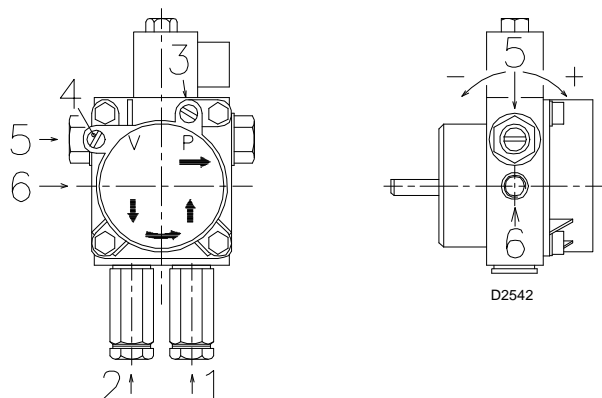

Fig. 17
Legend (Fig. 17)
- For self-priming to take place, one of the screws 3)(Fig. 17) of the pump, must be loosened in order to bleed off the air contained in the suction line
- The pump is primed when the fuel oil starts coming out of the screw 3)(Fig. 17).